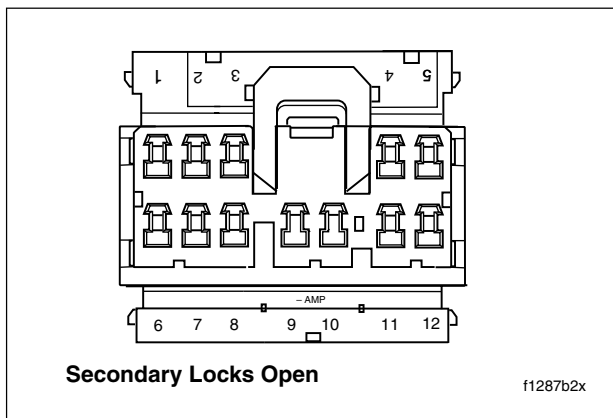

Figure 8-81. Numbers Stamped on Secondary Locks (Socket Housing Shown)
- g. Remove the appropriate terminals from the socket and pin housings. Follow the wires of the faulty switch or reference Table 8-11 for the applicable chamber numbers. For wire location purposes, numbers are stamped into the secondary locks. See Figure 8-81.
- c. Install terminals into socket or pin housing. See Table 8-12 and Figure 8-81.